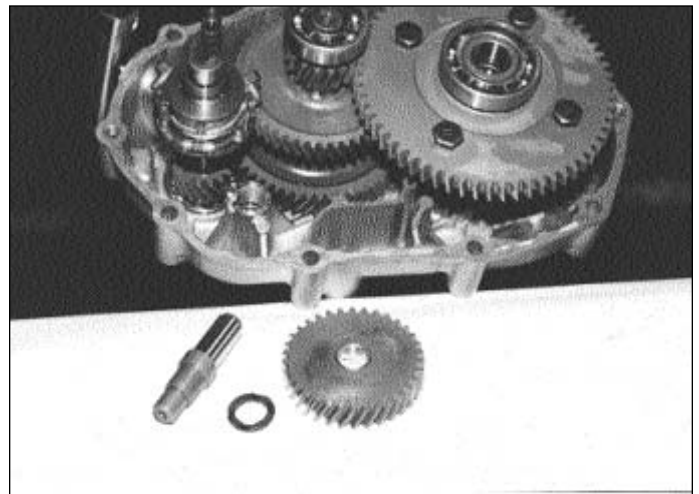

Figure 45 - Assemble Gear case
11. Install the input shaft assembly, center shaft assembly and differential gear assembly into gear case at the same time. See Figure 45.